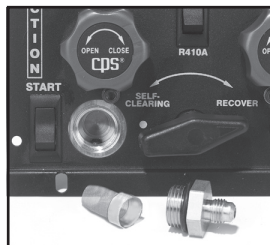

Figure 2
2. Once loose, remove the suction port- filter cartridge assembly is shown in Figure 2.